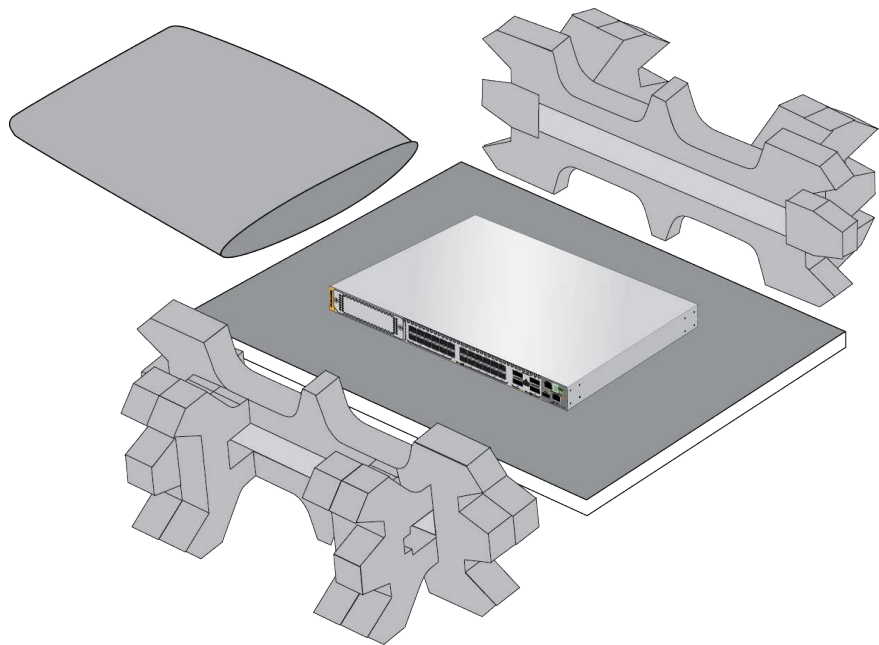

Figure 54. Removing the Switch from the Shipping End-caps and Protective Bag
4. Remove the switch from the shipping end-caps and protective bag. Refer to Figure 54.